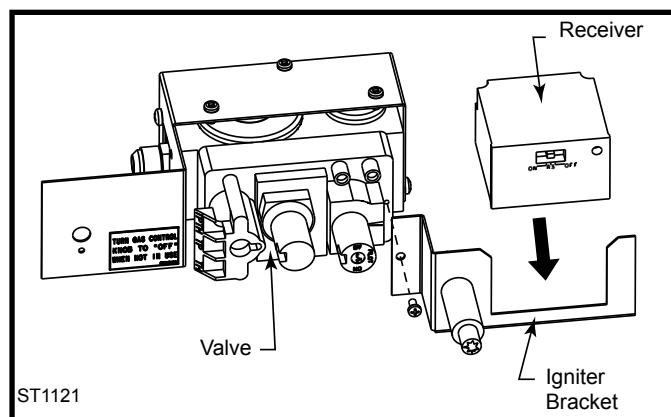

Figure 52 Install receiver.
1. Slide receiver into igniter bracket as shown in Figure 52.